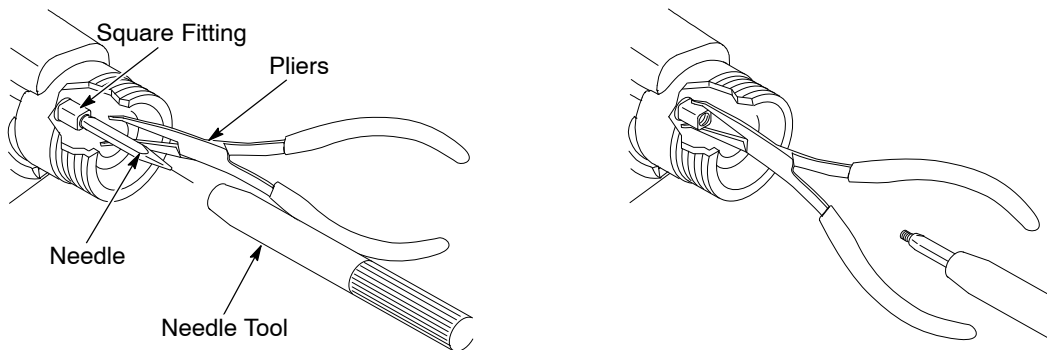

Figure 7-5 Needle Replacement
1. See Figure 7-5. Insert the bent needle nose pliers into the gun body and grasp the square needle fitting on the end of the packing cartridge.
4. See Figure 7-5. Insert the bent needle nose pliers into the gun body and grasp the square needle fitting on the end of the packing cartridge.